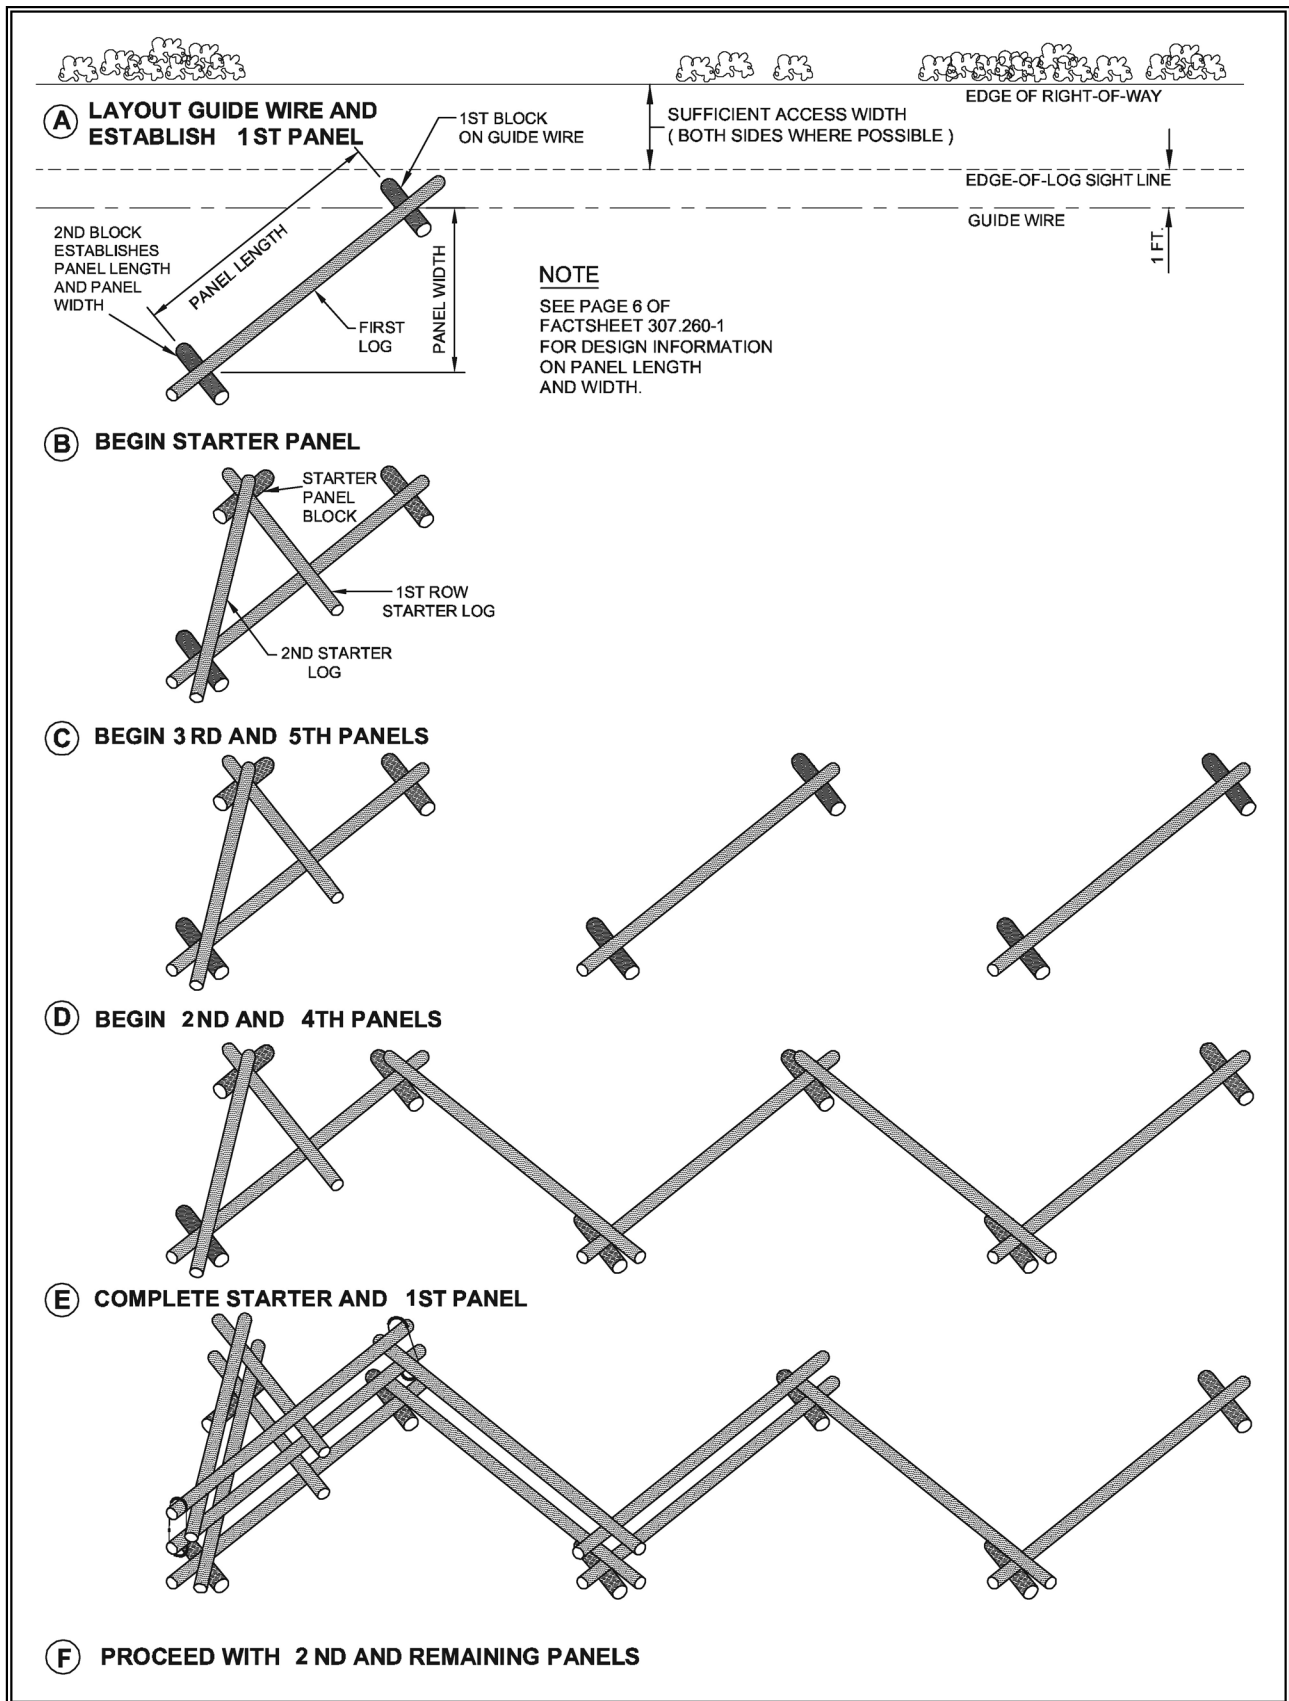

Figure 2
See Figure 2 below and design information on page 6 of Factsheet 307.260-1 *Livestock Control, Non-Electric Fence Designs*.
- Follow the procedure below as shown in Figure 2.
- Use peeled wooden starter blocks (pressure treated preferred; or flat rocks where available) set out the panel length for the first panel. The first block will be set at the guide wire and the other set to the fence side to establish the 'snake' (the second block will be the panel length from the first and the panel width from the guide wire). See Figure 2 (A)
- Set the starter panel block about 6 or 7 feet away from the first panel block and about the same distance from the first panel, bottom log. Notch and set the first row starter log (about one-half a regular log length) on this starter block and back onto the midpoint of the bottom first panel rail (make a small notch so it will sit on this rail). See Figure 2 (B)
- Before the first panel, second row log can be set, the second to fifth panels must be started i.e., the first, third and fifth panels will each have the two starter blocks set and each will have the bottom log notched and set in place). See Figure 2 (C)
- The first row log can now be set in the second and forth panels (notched and set on top of the bottom logs of the adjacent panels). See Figure 2 (D)
- The second row log in the first and third panels is notched and set. See Figure 2 (E)